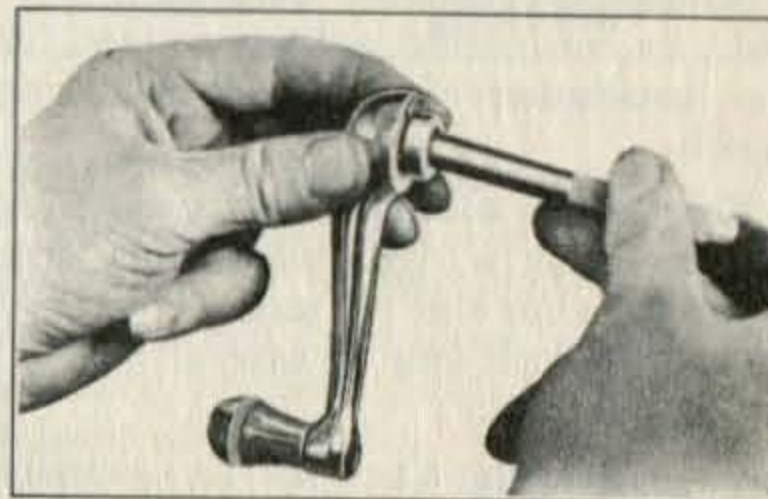

Fig. 22. Installing Handle Retaining Spring
- Insert the handle spring installing tool B-202 in the handle and snap the retaining spring in the spring slot. (See Fig. 22.) Handle can now be applied to regulator shaft by pushing on handle.